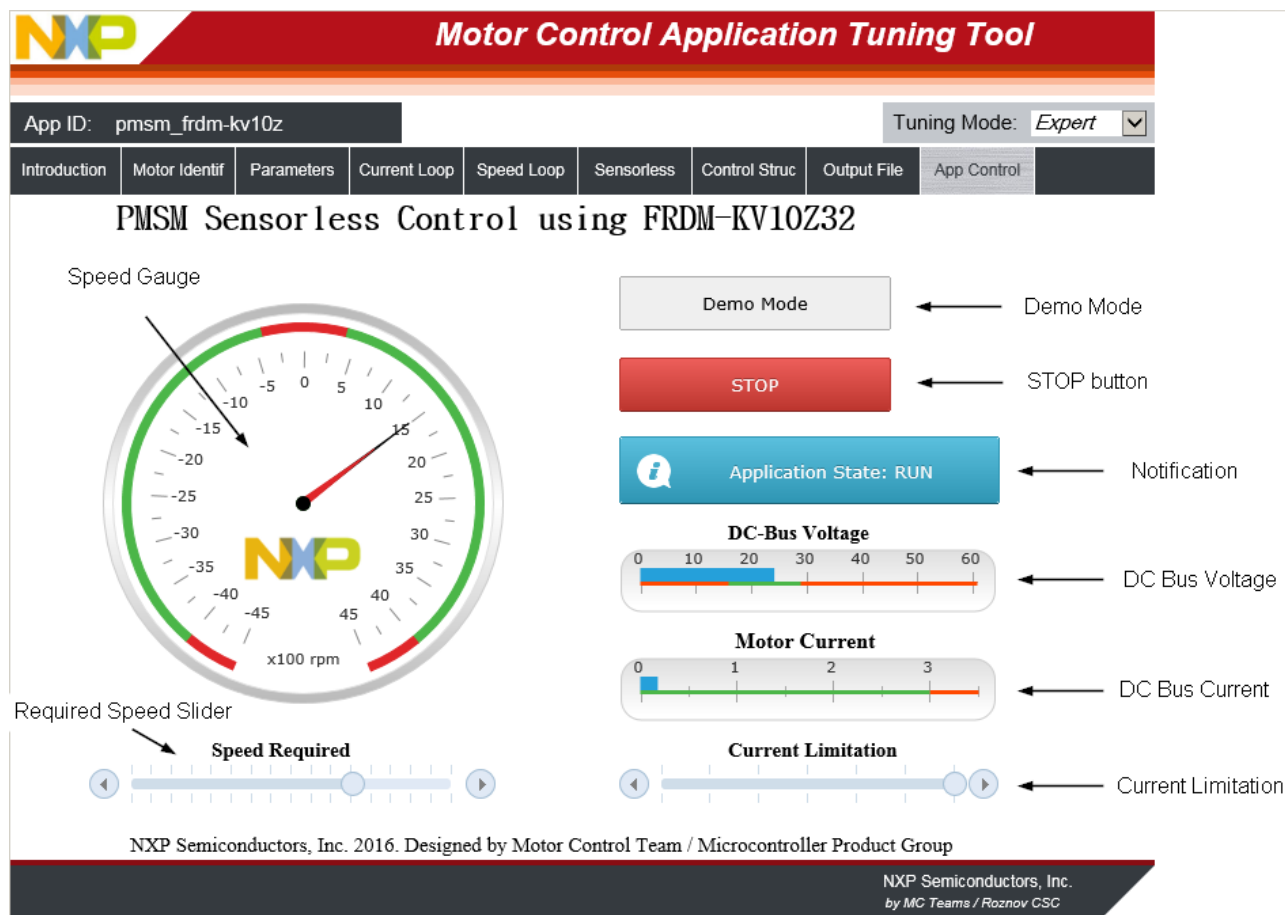

Figure 39. FreeMASTER control page
4. Set up the required motor speed using the speed slider, as shown in Figure 39.
1. Click the “STOP” button in the FreeMASTER control page (Figure 39).
To clear the fault, click the fault notification in the control page (Figure 39).